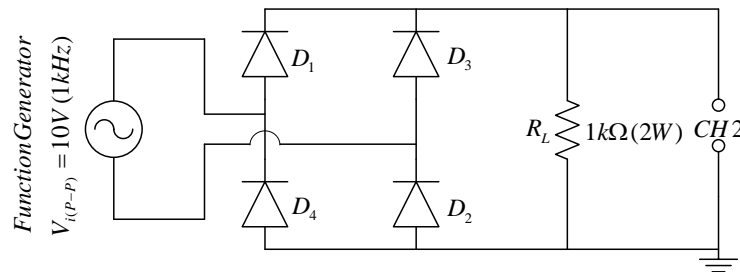

Fig 4.1 Full wave rectifier
1. Connect the circuit as shown in Fig 4.1. Adjust function generator as required before connecting it to the circuit.